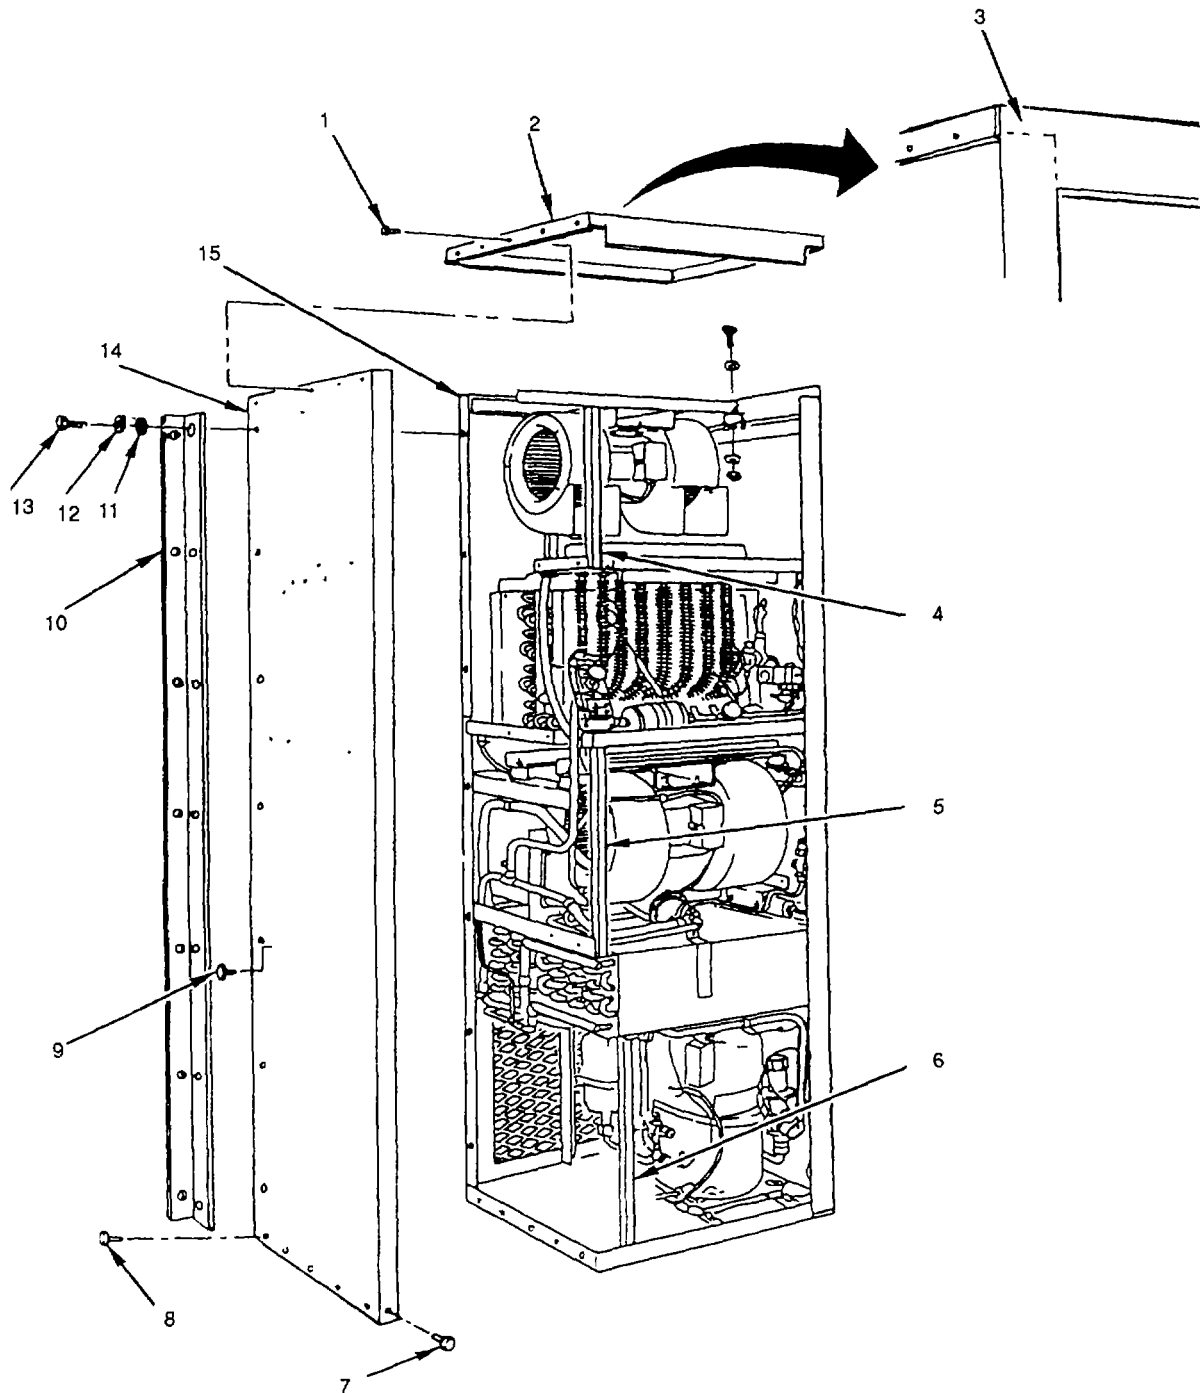

Figure 6-2. Left Frame Panel (Chassis)
- a. Cut top of frame both sides (3) (see fig. 6-2).
- b. Remove rivet (12) front left bottom corner securing captive receptacle to frame.